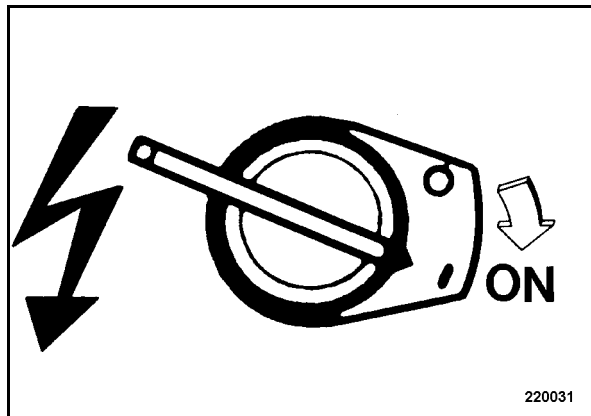

Fig. 18
- Turn the ignition switch (Fig. 18) to position "I" (ON).